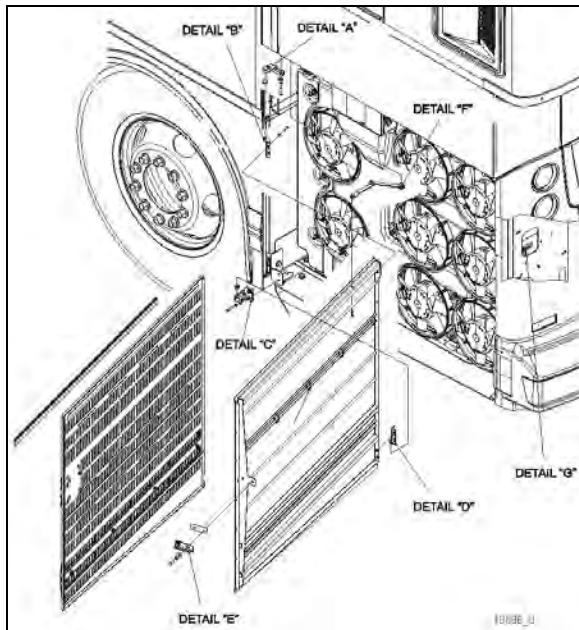

FIGURE 139: RADIATOR DOOR
6. Loosen the bolts, (details "A" & "C", Figure 139) holding the hinge to the vehicle structure to shift the door "LEFT or RIGHT".
7. Loosening the bolts (details "B" and "D", Figure 139) allows the door to be shifted "UP or DOWN".